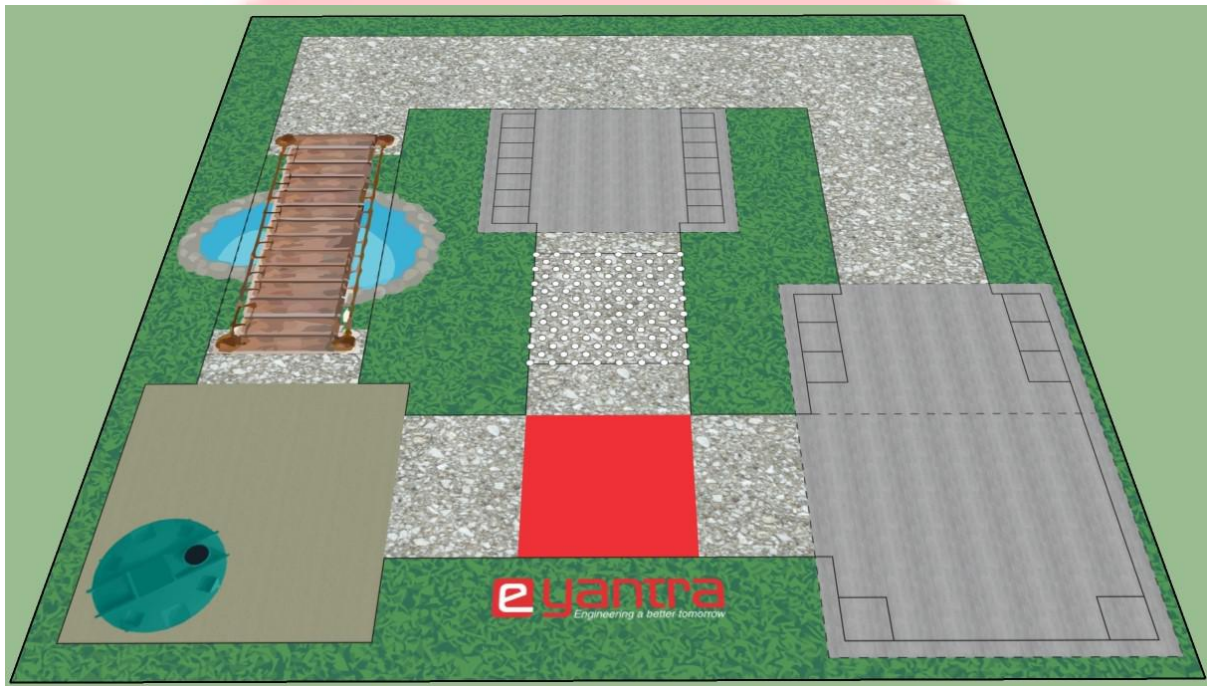

Figure 1: Full view of the arena
- Click a picture of your printed Arena (with full view of the arena as shown in image below in Figure 1) using a camera. This picture must clearly depict the printed flex sheet.